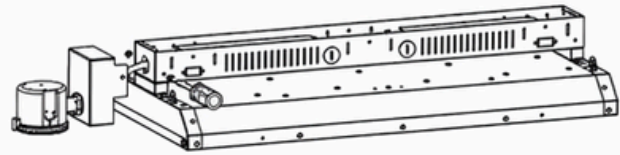

Figure10
Step2. Knock out the side cover, mount the sensor on the side, do wiring accofig to instruction on sensor (Figure 10).Step3. Fix the driver cover plate back in place (Figure 11).